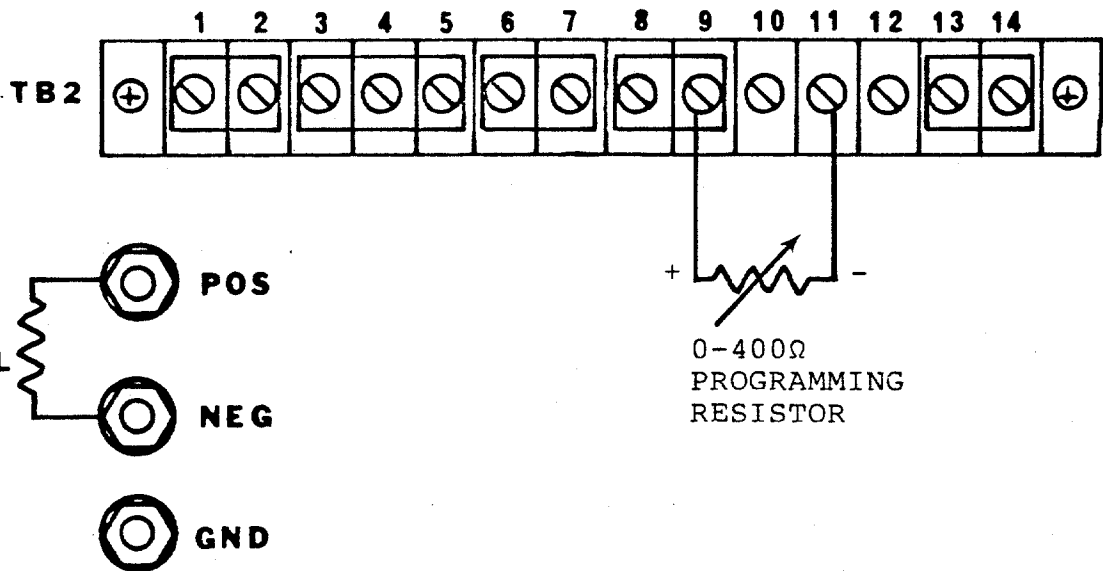

Figure 3-3A. Remote Resistance Programming of Output Current
(1) External Current Programming Using Resistance. The resistance coefficient for remote current programming is 400 ohms/100% rated output. The programming current from the current control programming terminal A3 is factory set for 0.250 milliamperes. This yields a coefficient of 0.25% of rated output current per ohm. If multiple switches or relays are used to program different levels, make-before-break contacts are recommended. See figure 3-3A for strapping requirements.
(2) External Current Programming Using a Voltage Source. The voltage coefficient for remote current programming is as follows: